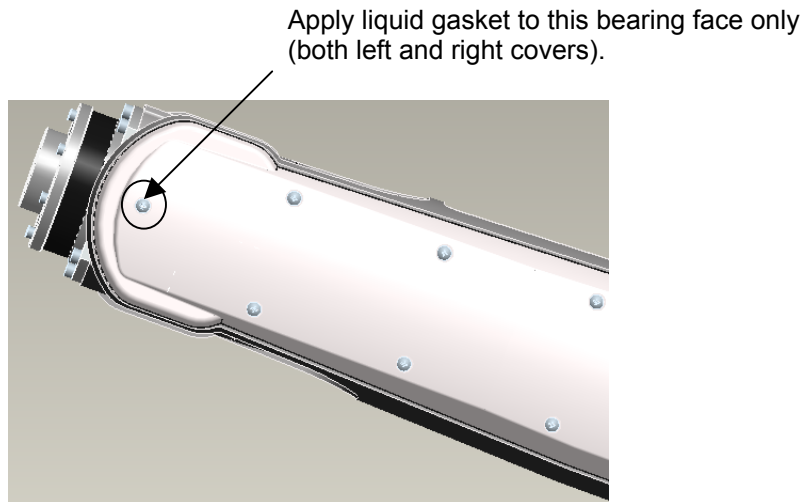

Fig. 5.7 Enlarged view of arm 2 cover (2)
5.3.5 Arm 2 Cover (2)
The arm 2 cover (2) is secured to arm 2 by 9 Phillips truss head screws on each side for a total of 18 screws (M3x12 and M3x8) with a packing inserted in between. When mounting the cover, be careful that no cables get pinched in between. Apply liquid gasket to the bearing faces of the truss head screws (one M3x8 on each side, total of two screws) located at the cover end (see Fig. 5.7).